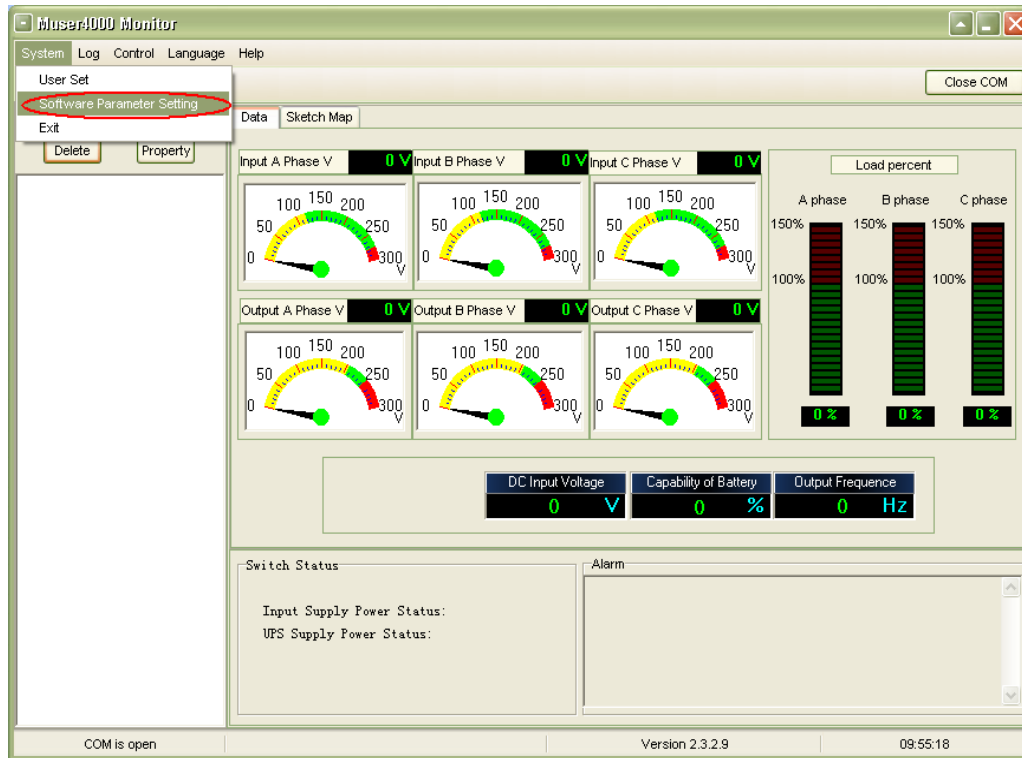

Fig. 5-22 Remote monitorization software
- Open the software Muser5000, click “system” button (Fig. 5-22).